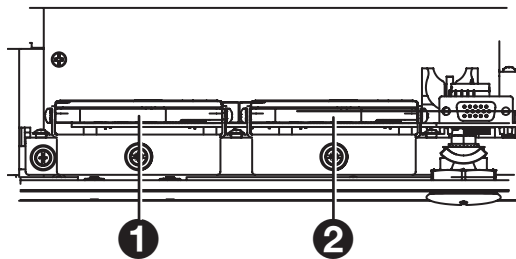

Figure 110. Disk Drives C and D
- **Drive C** — Contains the internal operating system and hardware drivers (see figure 110, ❶).
- **Drive D** — Contains system configuration data. This drive can also store local source content, such as image files (❷).